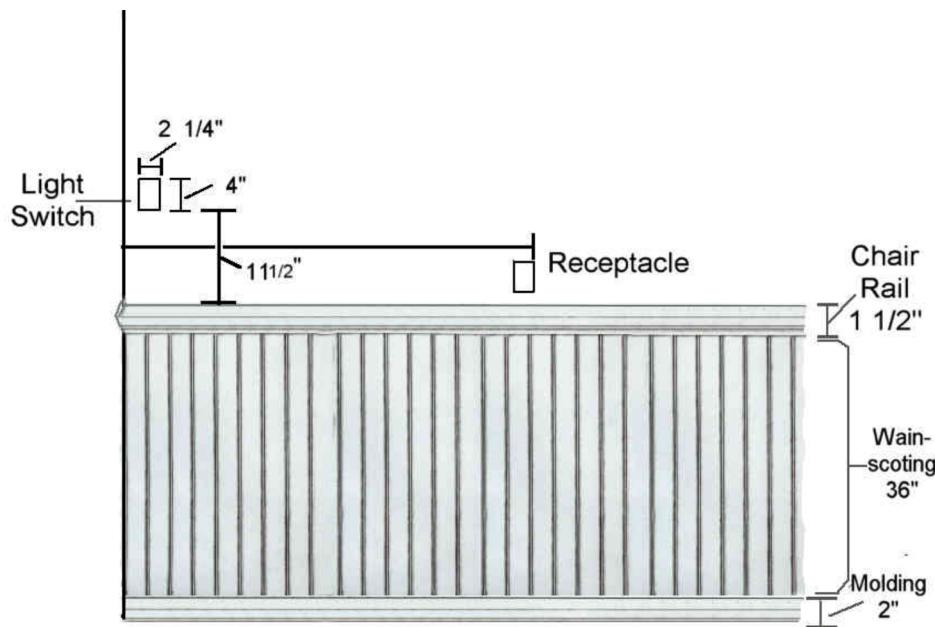

Figure 1: Residential wall with wainscoting and chair rail
The drawing in Figure 1 shows a light switch and receptacle installed on a wall that has wainscoting, baseboard moulding and a chair rail. Each panel of wainscoting measures 3 inches by 36 inches. The baseboard moulding is 2 inches high and the chair rail is 1 $\frac{1}{2}$ inches high. The light switch and receptacle measure 2 $\frac{1}{4}$ inches by 4 inches each. Questions 18 – 20 refer to Figure 1.
19. In Figure 1, what is the height of the wall from the floor to the bottom of the light switch?
20. You have been asked to install a receptacle on a wall similar to the one in Figure 1. The receptacle is to be installed above the chair rail, so that the right side of the receptacle is 7' 3" from the left side of the wall. If the wainscoting panels are 3 inches wide, how many panels would be to the left of the receptacle?